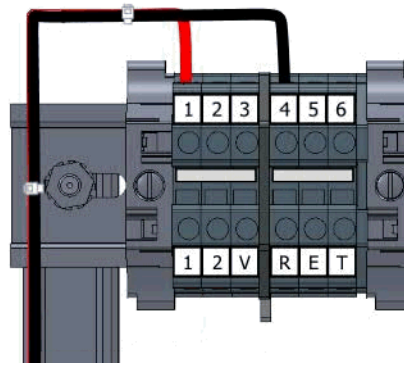

Figure 3 Install 12 V Terminal Block Wires
- Step 4. Install the longer red and black wires to the top of Terminal 1 and Terminal 4, respectively, as shown in *Figure 3*.